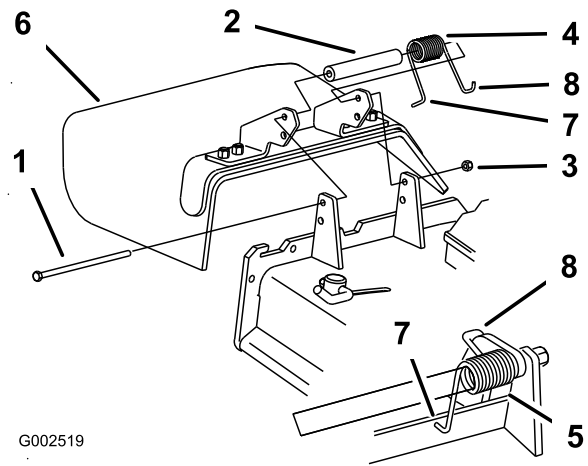

Figure 91
5. Place the J hook end of the spring around the grass deflector (Figure 91).
1. Remove the locknut, bolt, spring and spacer holding the deflector to the pivot brackets (Figure 91).
Note: Make sure the L end of the spring is installed behind the deck edge before installing the bolt as shown in Figure 91